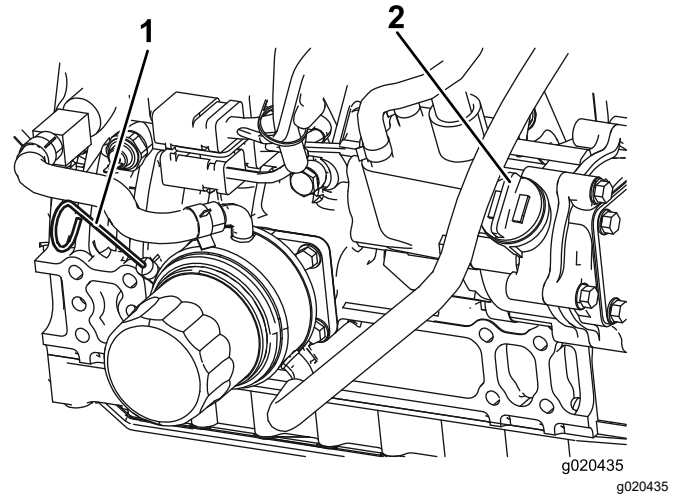

Figure 27
The oil level should be in the safe range (Figure 27).
4. If the oil is below the safe range, remove the fill cap (Figure 27) and add oil until the level reaches the Full mark. **Do not overfill.**